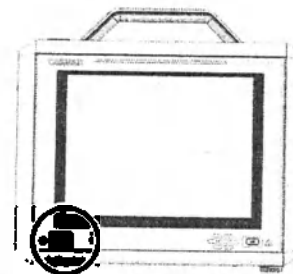

Figure 8: Power Switch and AC Charge Indicator
The AC Charge indicator (⌚) next to the power switch (Figure 8) on the front of the unit turns green when the Oximeter is receiving power and charging the battery.
5. Press the ① power switch on the front of the Oximeter (Figure 8) and verify the Oximeter will power on with the Battery installed.
- Press the ① power switch to turn on the Oximeter (Figure 8).